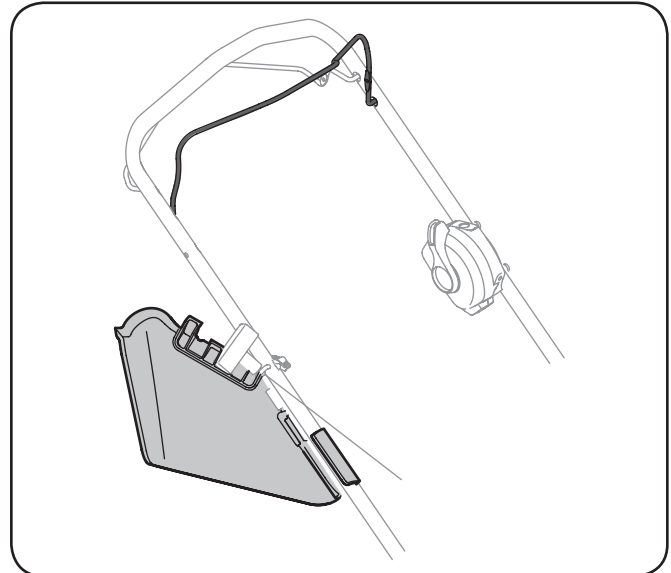

Figure 7-2
- Secure side discharge chute to handle as shown in Figure 7-2.